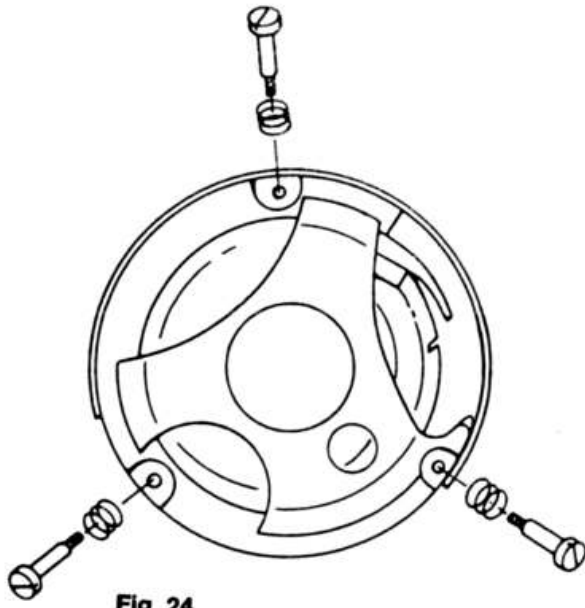

Fig. 24
- Take out the three screws with springs from behind (fig. 24).
- Fasten the sewing hook gib from behind with three screws with springs (fig. 24).